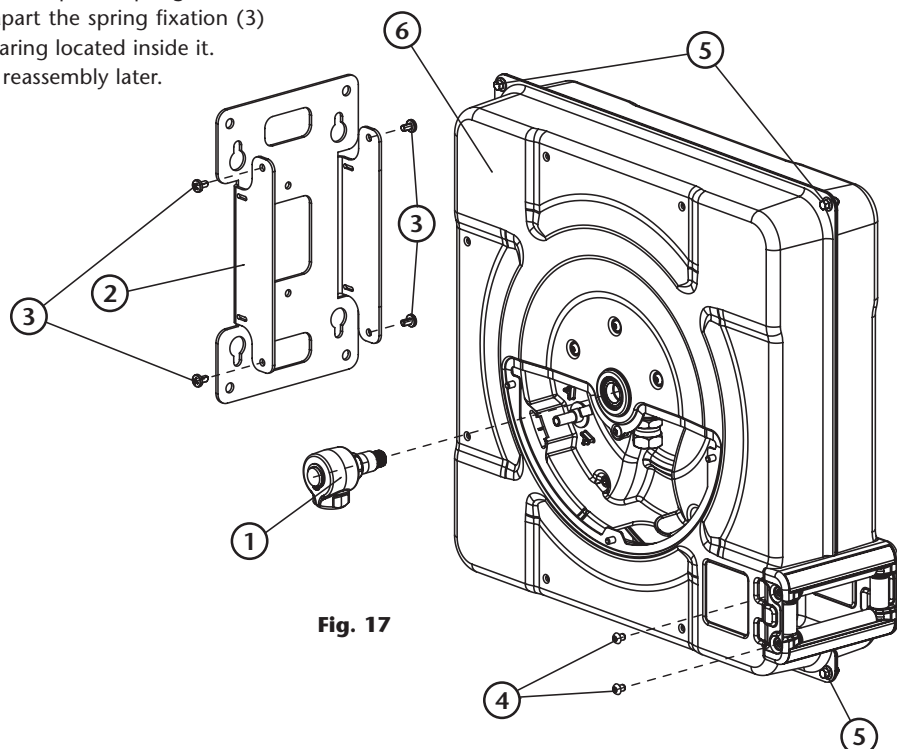

Fig. 17
7. Disassemble the set shaft-swivel (1) (fig. 17). It is not necessary to disassemble the swivel from the shaft. Use a flat-wrench over the shaft hexagon, and be sure to do counterforce by introducing an Allen key 7 mm between faces (1) (fig. 10) inside the brass hexagon (2) (fig. 10), through the Tensor piece (3) (fig. 10). Avoid to transmit stress to other hose reel components and don't apply lever with the flat-wrench over the swivel. Keep it to be able to install again later on the new spool.
8. Take apart the base (2) (fig. 17) loosening the bolts (3) (fig. 17). Keep the base to be able to install again later on the new spool.
9. Loosen the two bolts (4) (fig. 17) which hold one side of the roller outlet. Keep these bolts to be able to install again later.
17. Assemble the other casing side (the one with the service window), fitting its central hole on the brass shaft. For a correct assembly position, the wings which hold the roller outlet, must be aligned. Join both casing sides by tightening the bolts (5) (fig. 17).
18. Tighten the two roller outlet bolts (4) (fig. 17).
19. Place the shaft-swivel assembly (1) (fig. 17). For doing this, introduce carefully the shaft through the casing bearing, be careful not to damage the inner sealing ring with the shaft thread. It is recommended to clean the threads and apply a medium strength threadlocker in this threaded coupling. For tightening the shaft, it is needed to do counterforce by introducing an Allen key 7 mm between faces (1) (fig. 8) inside the brass hexagon (2) (fig. 8), through the Tensor piece (3) (fig. 8). Avoid to transmit stress to other hose reel components.
20. Place the base (2) (fig. 17) in position on the casing, using the sheet metal screws (3) (fig. 17).